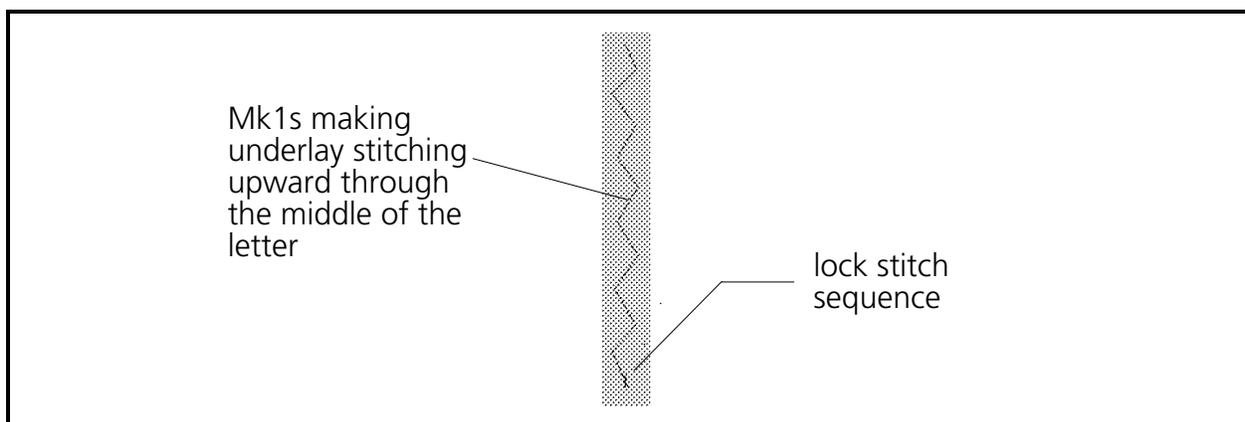

Figure 6-38
1. Select Needle Up, put a Mk1 at the bottom portion of the letter **I**, then select Normal Stitch (see Figure 6-38). To keep stitching inside the letter, put the Mk1 inside the letter, not on the line.
3. Lay down a running stitch underlay in a slight zig zag pattern of Mk1s up the length of the letter **I** (see Figure 6-38).